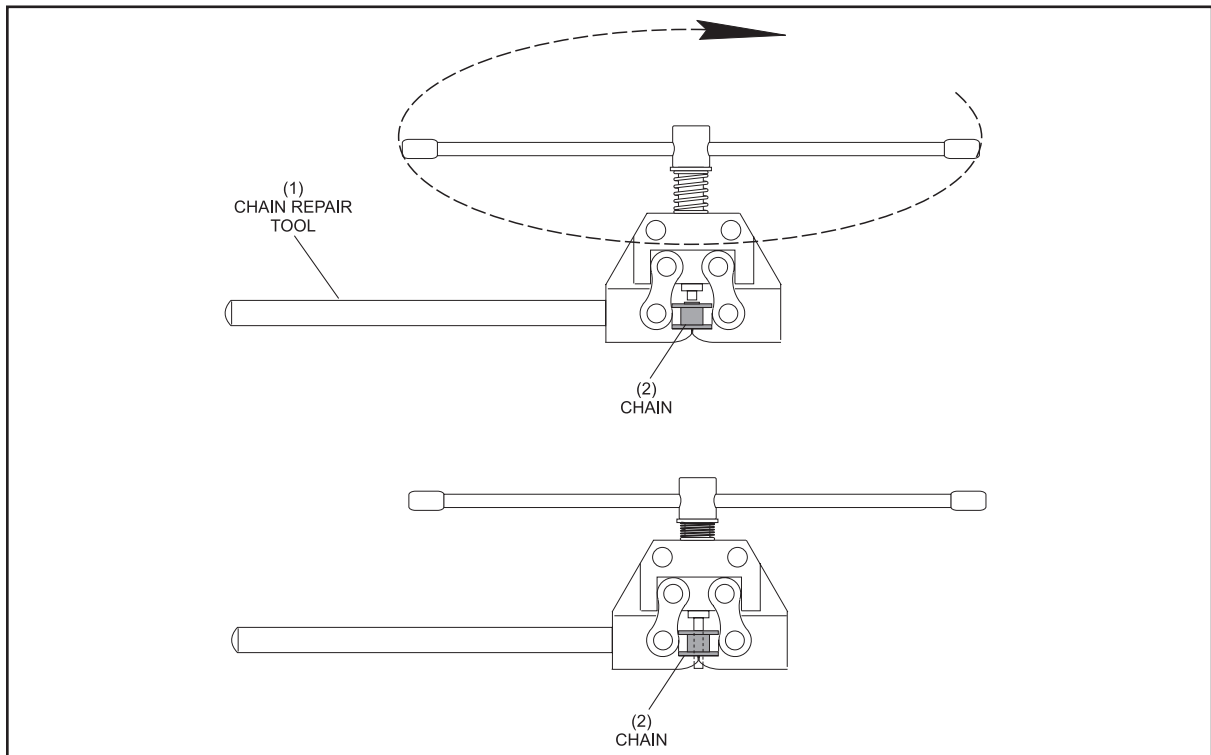

Figure 8-14. Chain Repair Using Vice.
2. Install the chain repair tool in a vise as illustrated in *Figure 8-14*.